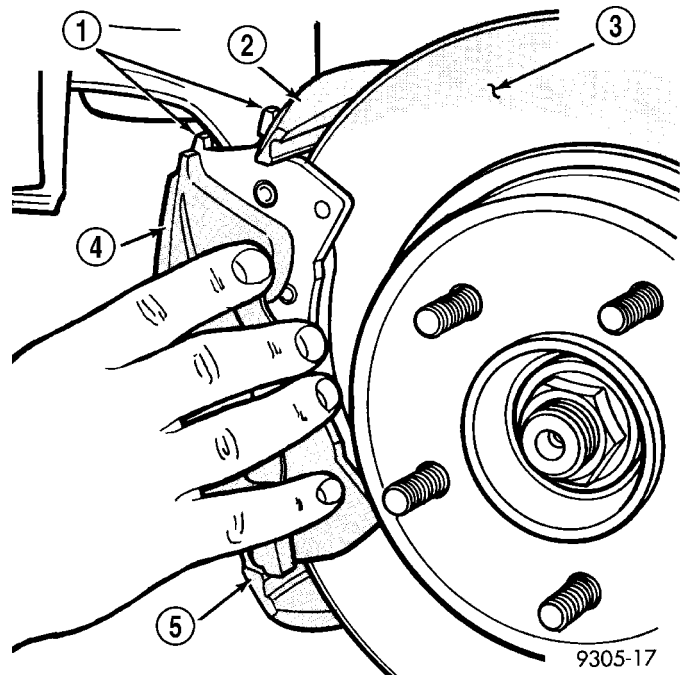

Fig. 25 Caliper Removal/Installation
(6) Remove caliper assembly from steering knuckle. Proceed by first rotating top of caliper away from steering knuckle, then lifting caliper off bottom machined abutment on steering knuckle (Fig. 25). Take care not to lose the two rail shims.
(6) Remove caliper assembly from steering knuckle. Proceed by first rotating top of caliper away from steering knuckle and then lifting caliper off bottom machined abutment on steering knuckle (Fig. 25).